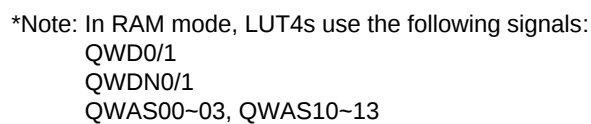
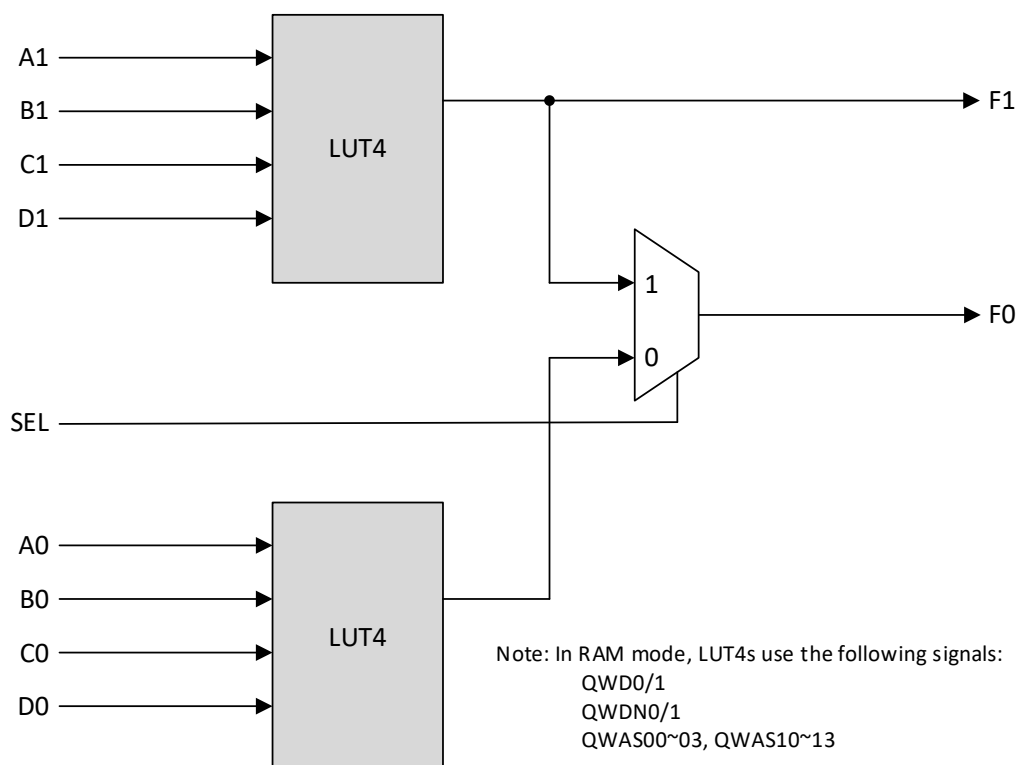

Figure 2.4. Slice Diagram
Figure 2.5. Slice Configuration for LUT4 and LUT5
Figure 2.4 shows an overview of the internal logic of the slice. The registers in the slice can be configured for positive or negative edge clocking.
Each slice has 17 input signals: 16 signals from routing and one from the carry-chain (from the adjacent slice or PFU). Three of them are used for FF control and shared between two slices (0/1 or 2/3). There are five outputs: four to routing and one to carry-chain (to the adjacent PFU). Signals associated with all the slices can be found in Figure 2.4 and Table 2.2. Figure 2.5 shows the slice signals that support a LUT5 or two LUT4 functions. F0 can be configured to have a LUT4 or LUT5 output, while F1 can be configured as a LUT4 output only.
1. See Figure 2.4 for connection details.